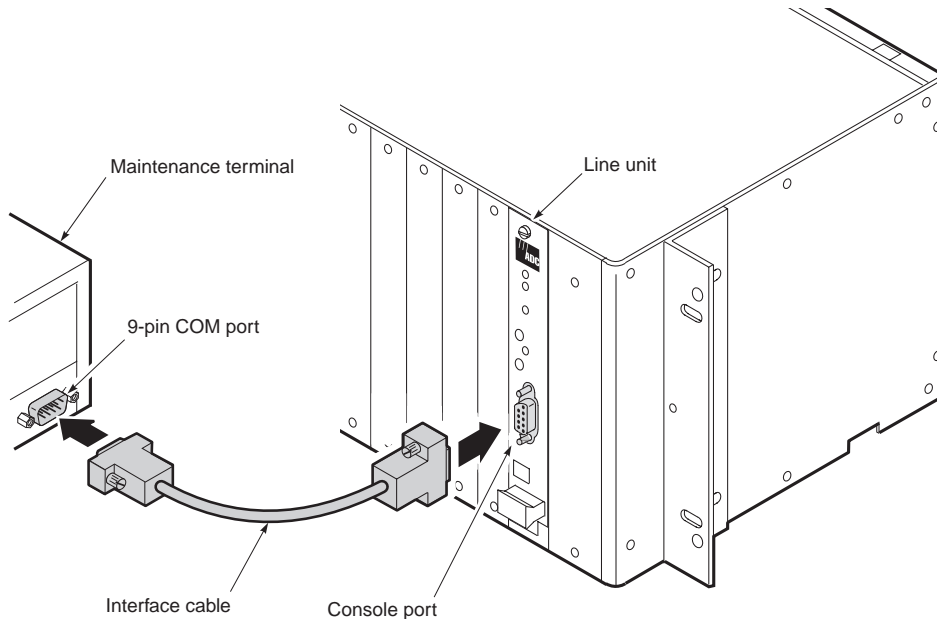

Figure 11. Connecting a Maintenance Terminal to a Line Unit
- 1 Connect a serial cable from the maintenance terminal 9-pin COM port to the line or desktop unit console port connector (Figure 11). Ensure the Data Terminal Ready (DTR) signal from the terminal is connected as the HDSL card will not communicate without it. Data Terminal Ready (DTR) may also be asserted by connecting the DSR output signal (pin 6) to the DTR input (pin 4).